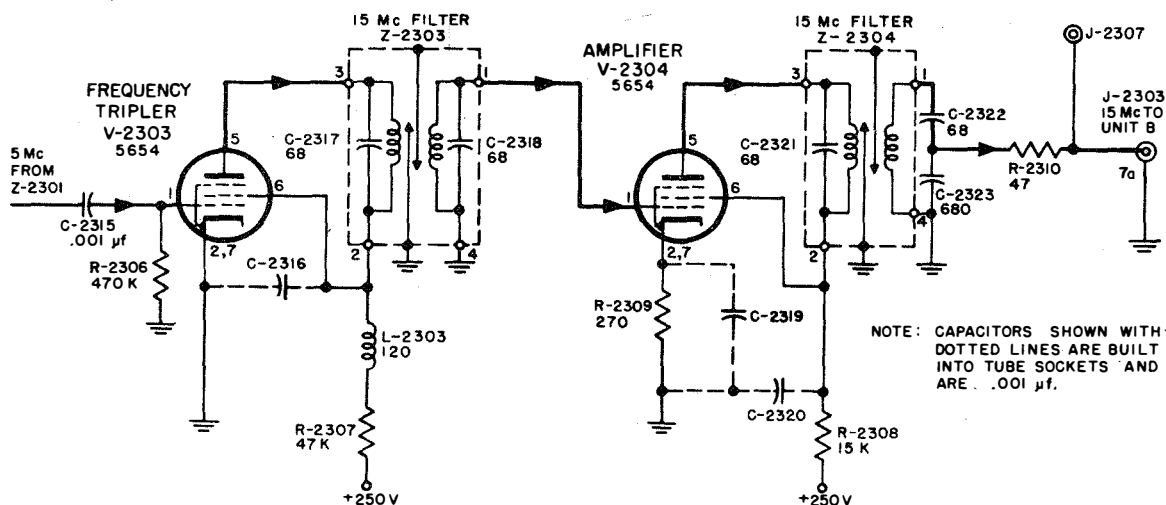

Figure 2-22. RFO Unit 7, Frequency Tripler V-2303 and Amplifier V-2304, Simplified Schematic
(2) FREQUENCY TRIPLER V-2303 AND AMPLIFIER V-2304.—Frequency tripler V-2303 (figure 2-22) receives through C-2315 a portion of the 5-mc output of V-2301. The tripler distorts and amplifies the input, producing an output that is rich in harmonics. Double-tuned filter Z-2302 attenuates all frequencies except the third harmonic (15 mc). The filter output is amplified by V-2304 and filtered again by Z-2304. The final 15-mc output (7a), reduced in amplitude by divider C-2322 and C-2323, is coupled by matching resistor R-2310 to J-2303 and fed to unit 8. Output 7a may be tested at J-2307 and is approximately 1.4 volts.